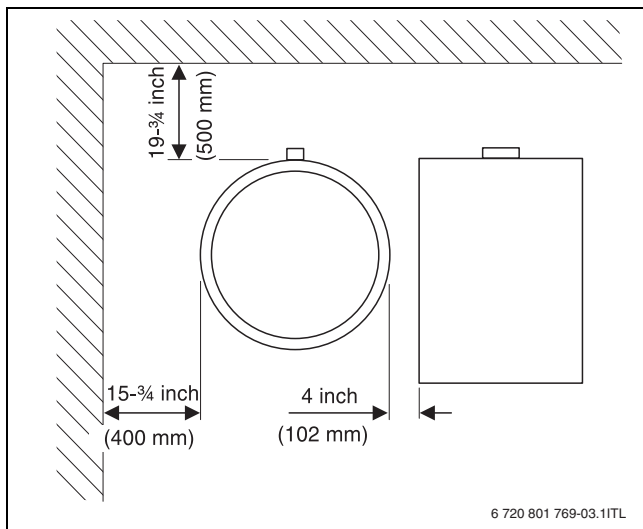

Fig. 6 Recommended minimum wall clearances
- ▶ Observe the minimum height (→ Tab. 6, page 7) and minimum wall clearances inside the installation room (→ Fig. 6).